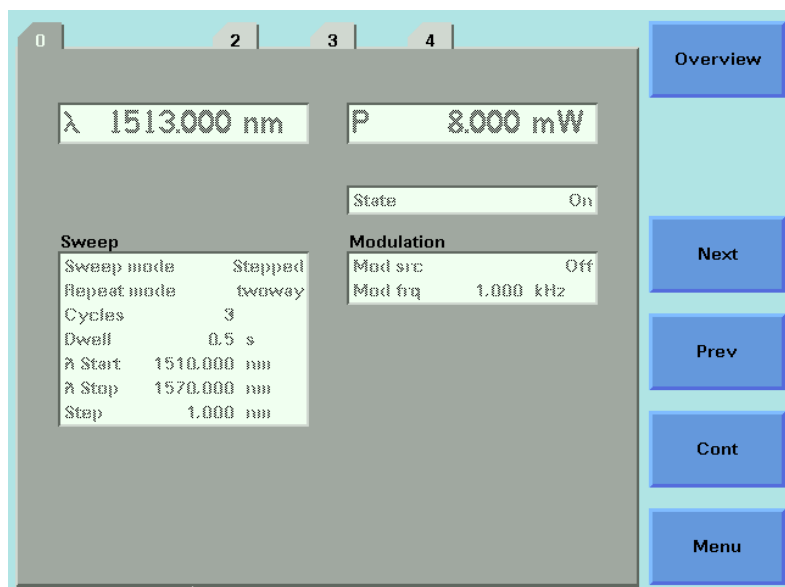

Figure 16 Pausing a Stepped Sweep
- b** press [Pause] to pause the sweep. The screen in Figure 16 appears. You can: